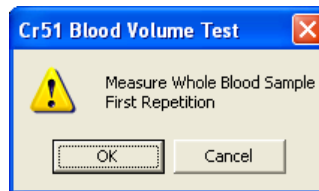

Figure 10-62
- The screen will appear as shown in Figure 10-62, prompting you to measure the whole blood sample.